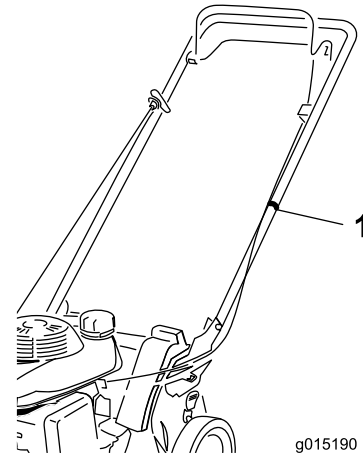

Figure 8
6. Tie the cable to the handle (Figure 8) using the cable tie from the loose parts bag.